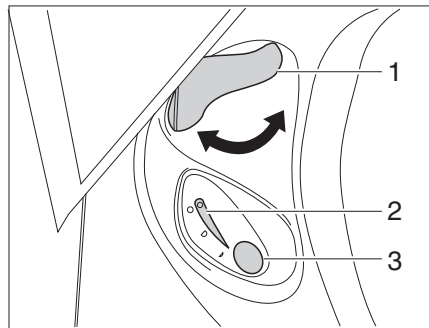

Fig. 187 Operating unit Thetford toilet
- ▶ Before flushing open the sliding trap of the Thetford toilet. To do this, turn the slide lever (Fig. 187,1) anticlockwise.
- ▶ Press the blue flush button (Fig. 187,3) to flush.
- ▶ After flushing close the sliding trap. To do this turn the slide lever (Fig. 187,1) clockwise.
- ▶ The indicator lamp (Fig. 187,2) goes on whenever the Thetford cassette has to be emptied.
- ▶ Turn the slide lever (Fig. 187,1) clockwise. The sliding trap is closed. To empty, the sliding trap in the Thetford toilet **must** be closed.